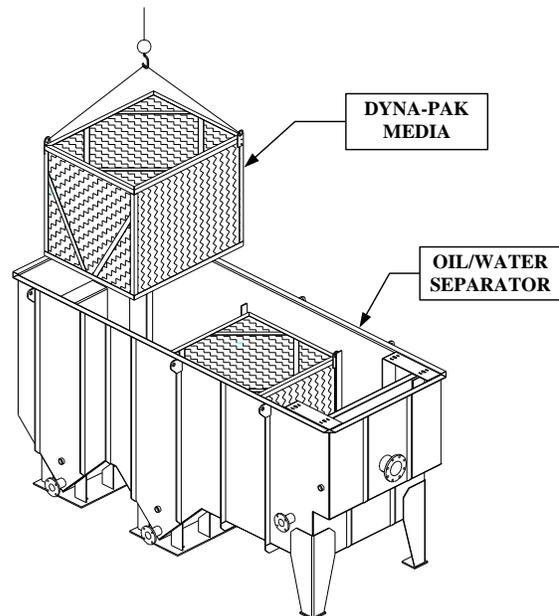

Figure 3
- Step 2. Lower Dyna-Pak media pack(s) into place between pack positioning plates (See Figure 3).